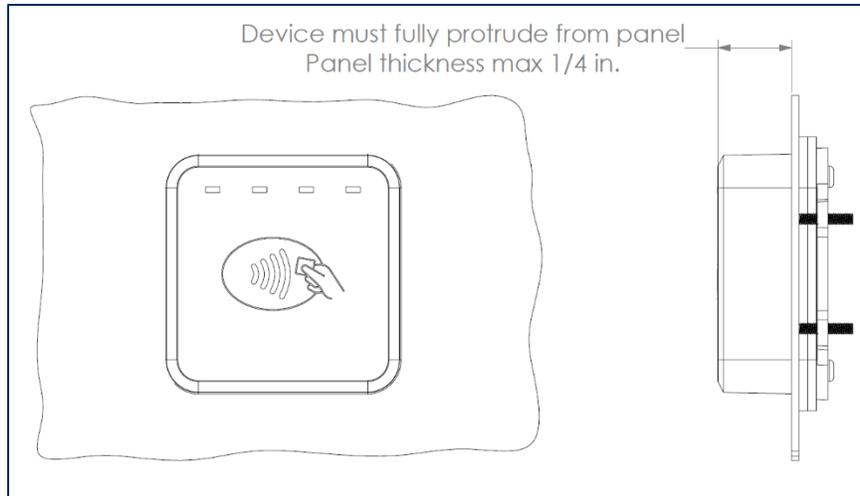

Figure 3-5 - DynaWave Protrusion from Panel
In addition, if the enclosure contains ferromagnetic material such as steel, the solution design team must carefully consider the enclosure's radio frequency (RF) absorbing effects on NFC contactless performance. The device must protrude from such a mounting panel as much as possible (see **Figure 3-5**) to avoid adverse effects on NFC communication range. For example, assuming a flat sheet steel panel, the panel thickness should not exceed 0.25 in. (6.5mm). Designers may also wish to consider hybrid designs that use a larger cutout and a "surround" of non-ferromagnetic material such as plastic, which further decouples the device from RF absorbing effects of the mounting panel.